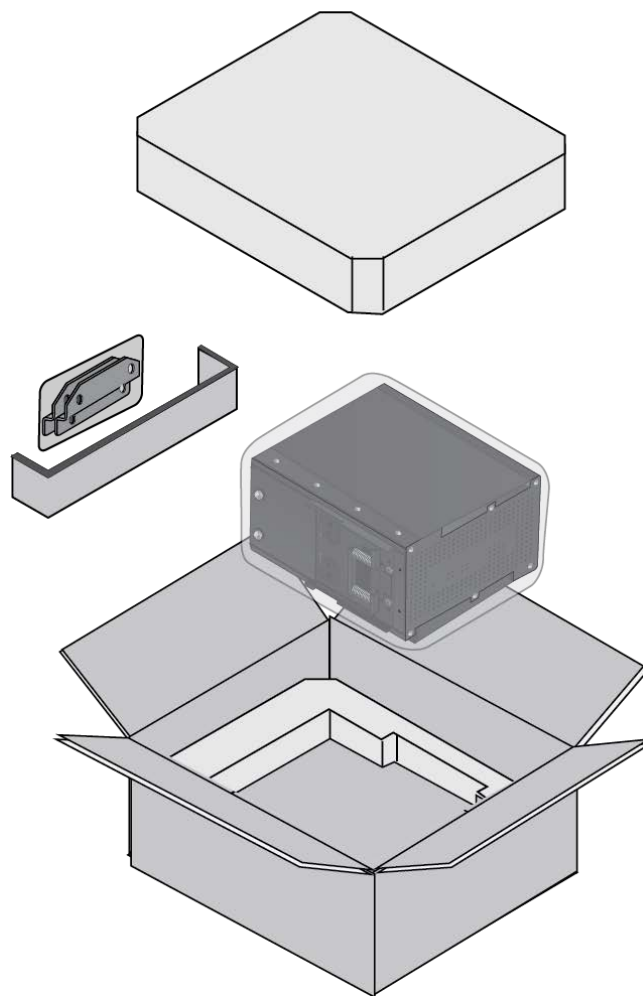

Figure 8. Removing the Switch from the Shipping Box
1. Remove all the components from the shipping box. Refer to Figure 8.